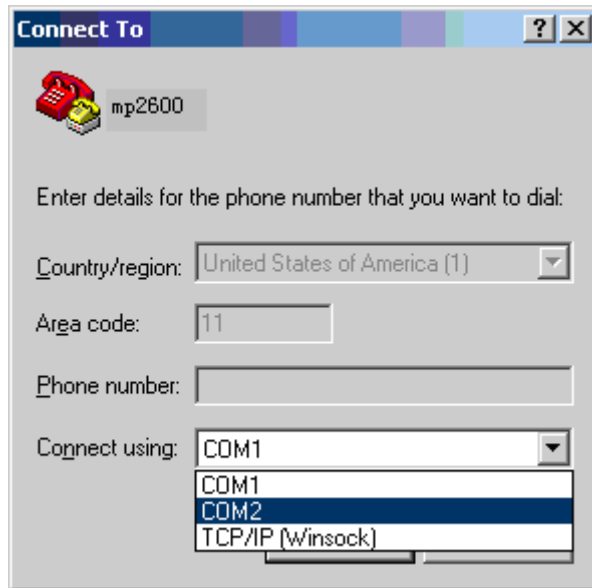

FIGURE 4-3 THE SETTING OF THE SERIAL PORT USED BY CONNECTING HYPERTERMINAL
- Step 2: On the **Connection Description** interface, input the new connection name and click **OK** to display the window as shown in Figure 4-3. Select the serial port used by the connection in the **Use when connecting**.